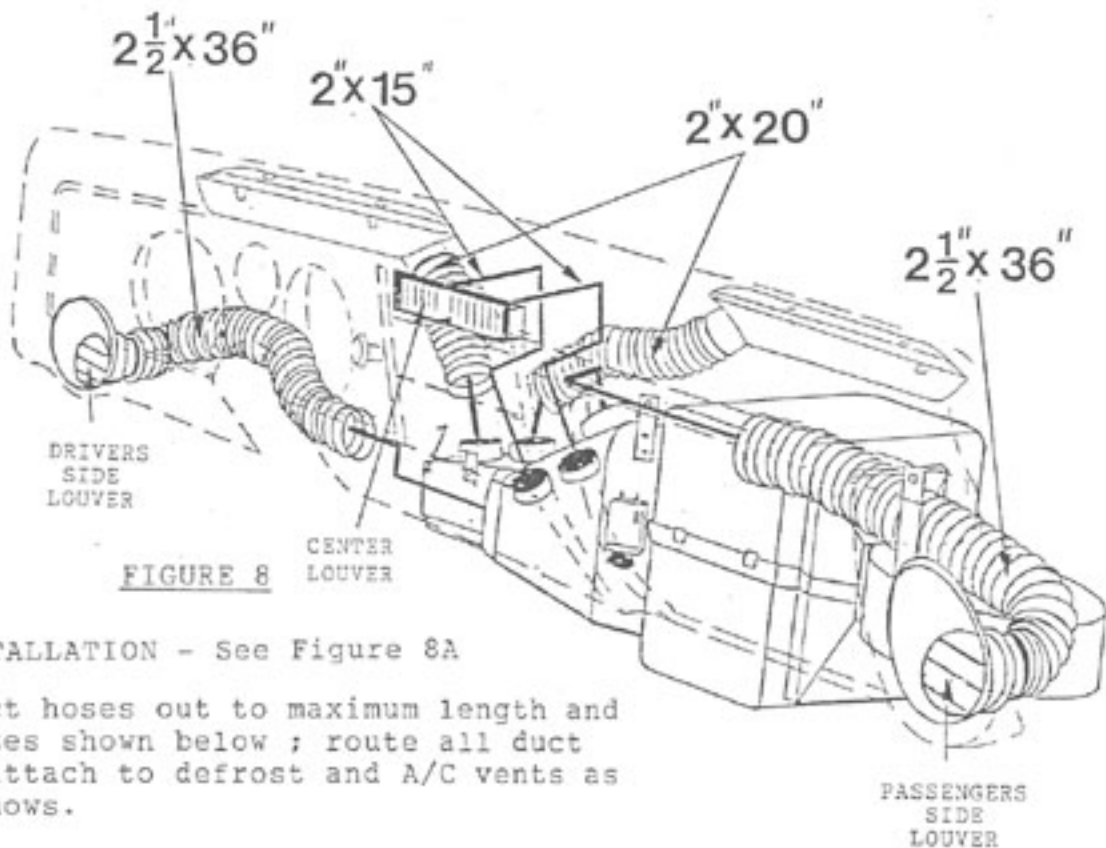

FIGURE 8
9. Stretch duct hoses out to maximum length and cut the sizes shown below ; route all duct hoses and attach to defrost and A/C vents as Figure 8 shows.